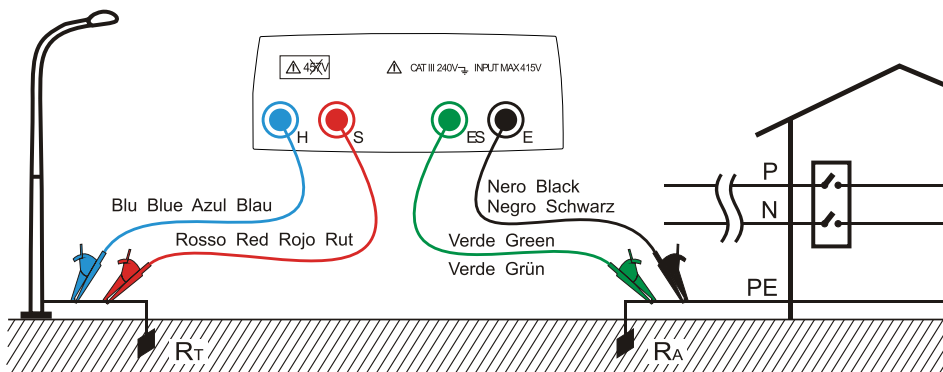

Fig. 3: Two-wire earth resistance measurement using an auxiliary rod
In Fig. 3 a lamp post is used as auxiliary rod, however any metal body driven into the ground can be used provided that the above mentioned requirements are met.
The instrument displays the sum value of  $R_A + R_T$  as result (see Fig. 3 and Fig. 4). Therefore the measurement achieved is the closer to  $R_A$  (prospective value) the more negligible is the value  $R_T$  of the auxiliary rod with respect to  $R_A$  itself. In addition the measurement will be increased "for safety sake" by  $R_T$ , i.e. if  $R_A + R_T$  results to be coordinated with protective conductors,  $R_A$  alone will be far more coordinated
6. Connect crocodiles to the auxiliary rods and to the installation under test (see Fig. 3 and Fig. 4)